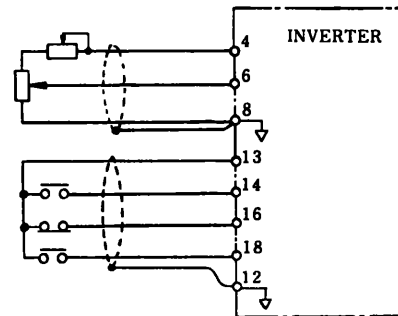

Fig. 4.2 Noise Prevention
Use shielded leads for the control signal line and the frequency command signal line, and connect the shield to terminals (2), (8) or (12) to the 0V line (Fig. 4.2).